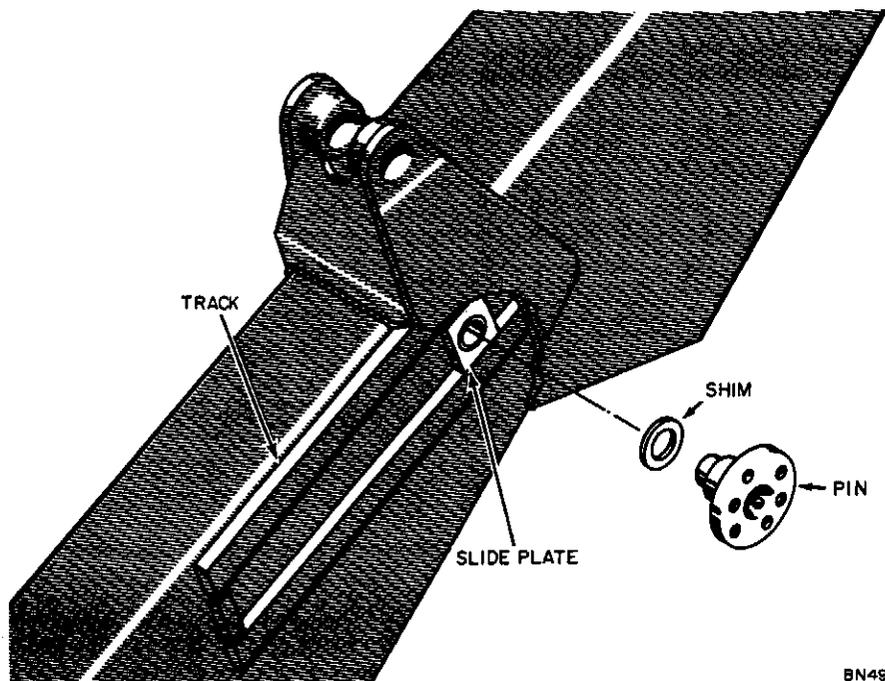

Figure 6 - Eliminating Side-Play with Shim
2. The slide plate can be rotated 90° if after long use it becomes worn and "sloppy" in the track (Figure 6).
3. Any side-play in the Extendable Boom can be eliminated by the addition of a shim between the slide plate and pin assembly (Figure 6).